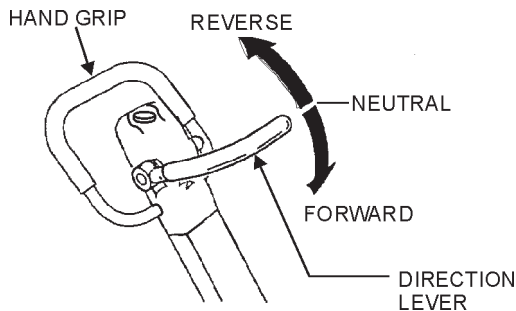

Figure 15. Direction Lever
1. Grasp the compactor's hand grip (Figure 15), and move the engine throttle lever quickly from the **turtle** position (idle) to the **rabbit** position (full throttle) position.
3. To make the compactor move in the forward direction push the travel lever (Figure 15) forward.
4. To make the compactor move in the reverse direction pull the travel lever (Figure 15) backwards.